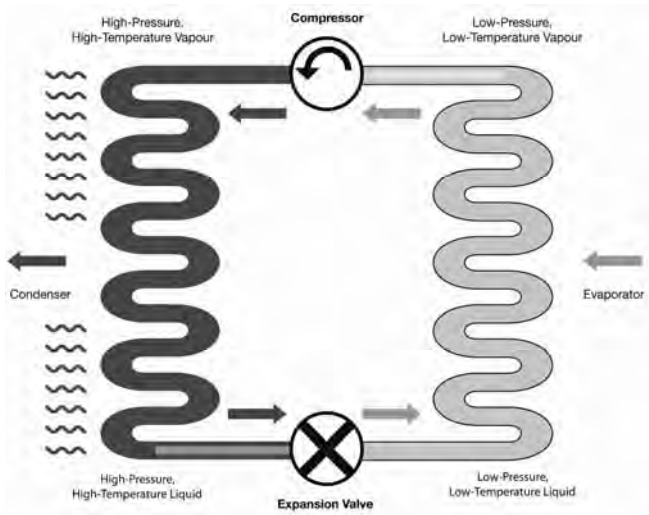

Figure 1: Heat Pump Cycle Diagram
- Figure 1 shows a simple heat pump cycle diagram.